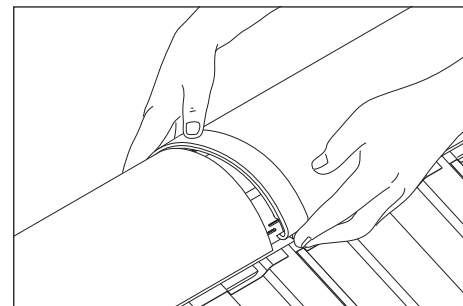

Fig. 12 – Fit ridge union
- 18 Fit ridge union by clipping each end over circular beads (Fig. 12).